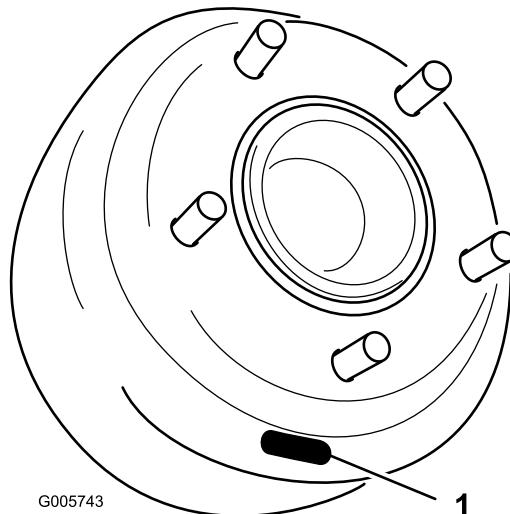
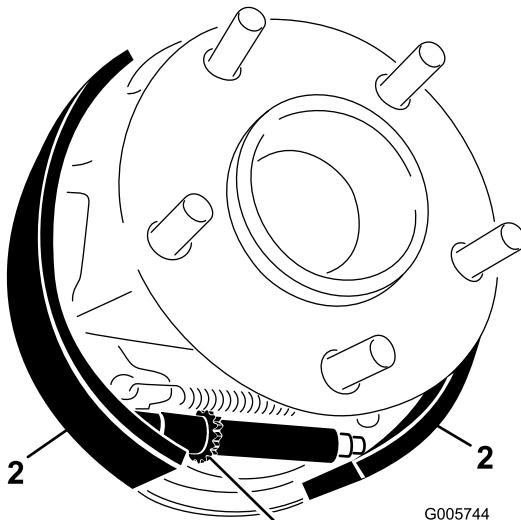

Figure 63
Figure 64
bottom and centered over star nut that adjusts brake shoes (Figure 63).
6. Using a brake adjusting tool or screwdriver, rotate star nut (Figure 63) down until brake drum (Figure 64) locks because of outward pressure of brake shoes (Figure 64).